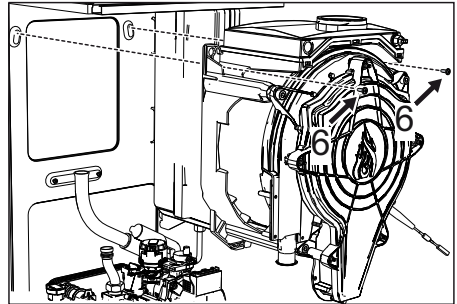

fig. 50
- Remove the 2 **top screws "6"** securing the exchanger to the frame (fig. 50)